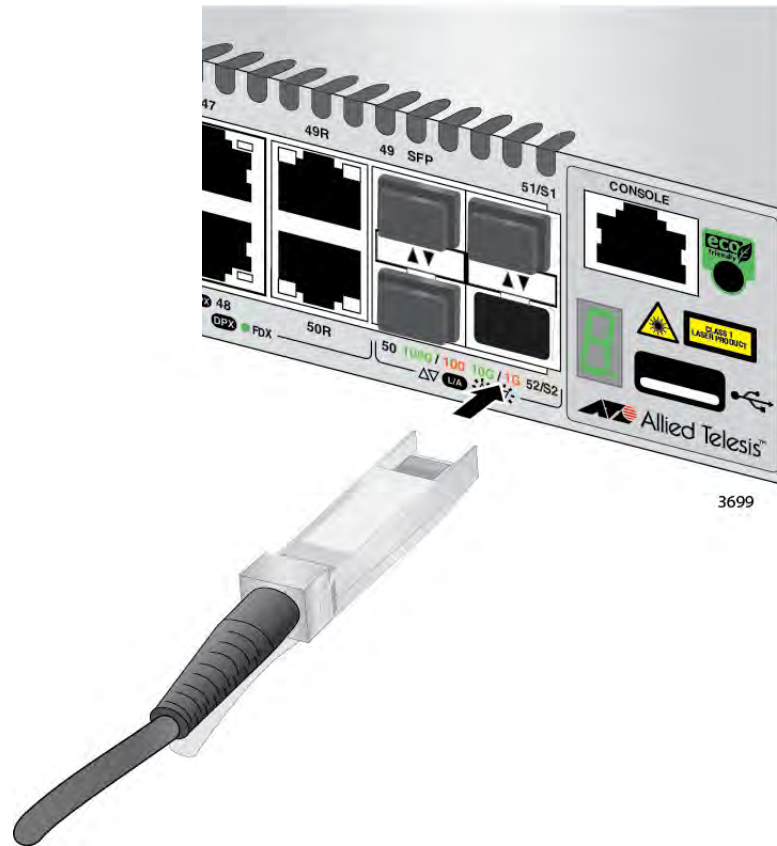

Figure 41. Installing the Transceiver in Slot S2
- Position the transceiver with the release tab on the bottom and slide it into the slot until it clicks into place, as shown in Figure 41 on page 86.